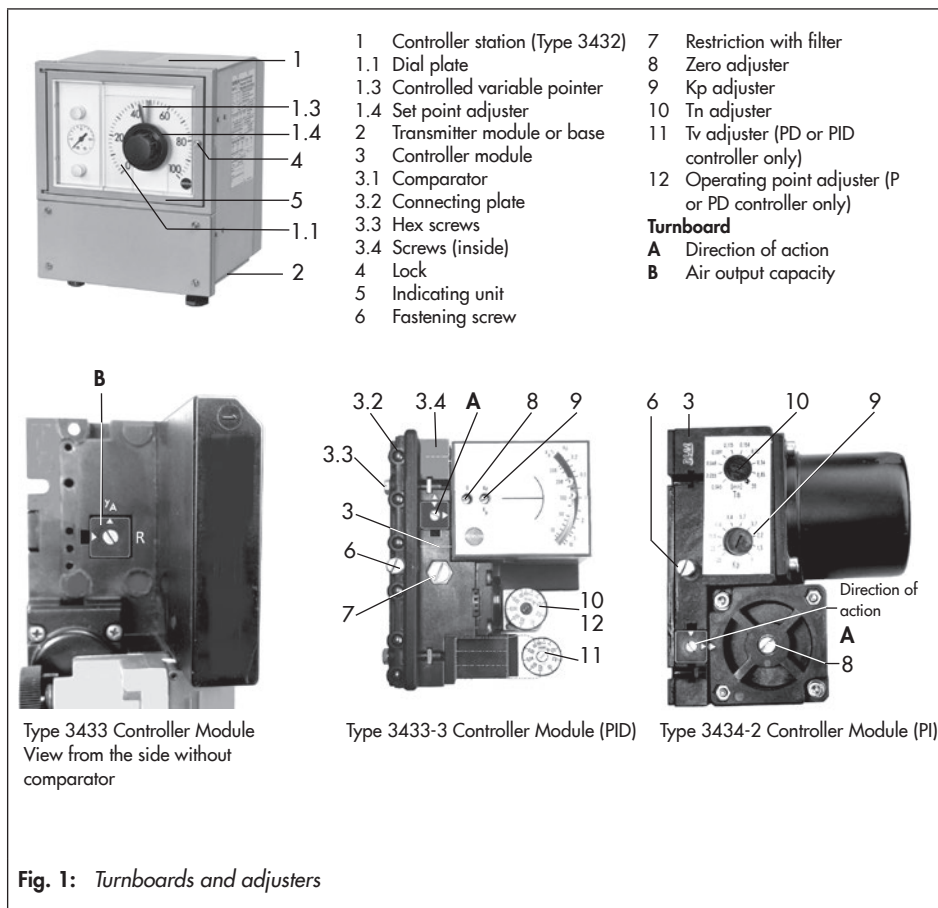

Fig. 1: Turnboards and adjusters
The controller module in the station can be accessed after releasing the lock (4, Fig. 1) and opening the indicating unit (5).
The direction of action for the control loop is set at the turnboard **A**, where the position of its arrow symbol according to the arrow symbol on the controller module determines the direction of action of the controller (Fig. 1).
Undo the screw in turnboard **A** (Fig. 1) and lift it off together with the turnboard. If necessary, lever the board at the side. Do not lose the rubber seal.
The position of turnboard **B** (Fig. 1) with its arrow symbol determines the air delivery to the feedback bellows. It can only be accessed after removing the comparator (3.1).
Before adjustment, release the lock (4, Fig. 1) and open the indicating unit (5). The contacts can be accessed on the back of the device.
The controller needs to be tuned to the characteristics of the controlled system using the K_p and T_n and/or T_v adjusters at the controller module (Fig. 1). This ensures that the controller can maintain any system deviations for all set points caused by the disturbance variables to zero or at least minimize them.
When the system is in a steady-state condition, read the automatic output y_A of the controller at the display (1.5) and set this value directly at the operating point adjuster (12, Fig. 1) (setting values 0.2 to 1 bar = 0 to 100 %).
Deviations between the set point and the controlled variable can also be corrected at the zero adjuster (8, Fig. 1) of the controller module.